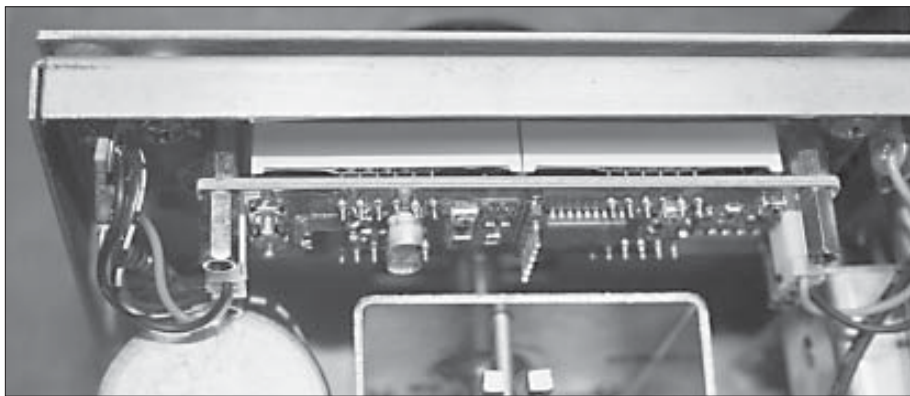

Figure 6: Terminal strips are used as a wiring termination point.
12. I used 2-post terminal strips, shown in **figure 6**, on each mounting screw as a convenient termination point to solder